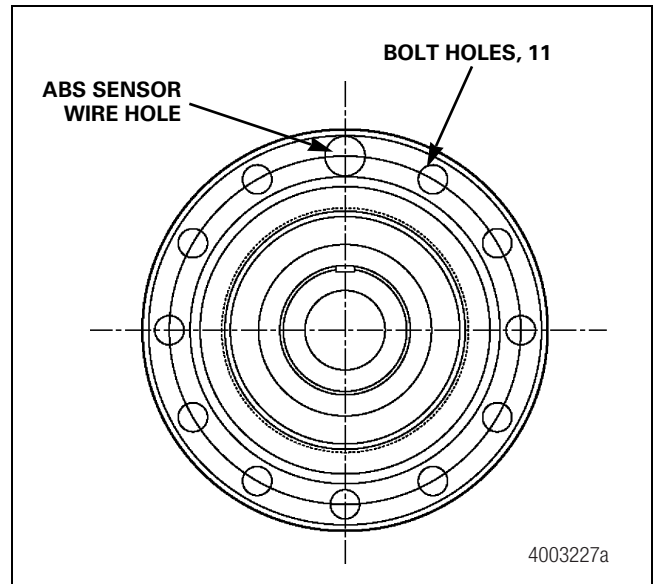

Figure 6.25
- **For a 12-hole flange:** Fasten the brake by installing the correct 9/16-inch (14.288 mm) diameter fasteners through the 11 0.594-inch (15 mm) holes. Tighten the fasteners to 130-165 lb-ft (176-224 N•m). Figure 6.25. 🔧